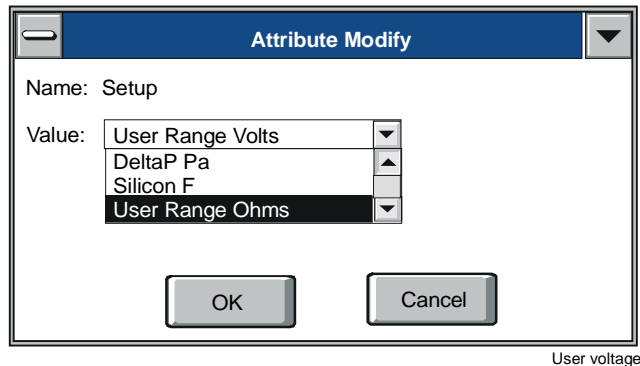

Figure 7-16: Attribute Modify Dialog Box
1. In the Component Modify dialog box (Figure 7-12), double-click Setup in the Attribute List. The Attribute Modify dialog box appears (Figure 7-16).